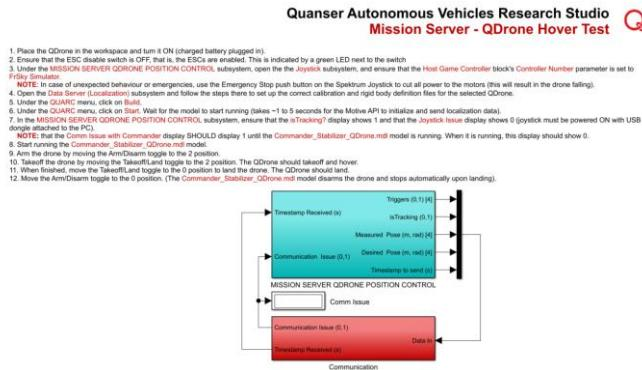

Figure 4. Mission Server Model
- Open a different MATLAB instance and from this window, in the same folder containing this file, open the folder QDrone Hover Test, and open Mission_Server_QDrone_Hover_Test_FrSky.mdl (Figure 4). (If you have a Spektrum controller, open the file that does not end in FrSky).